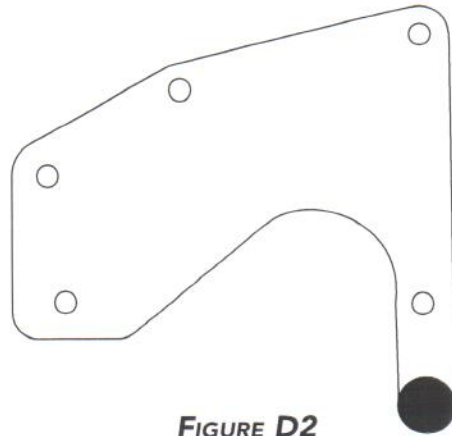
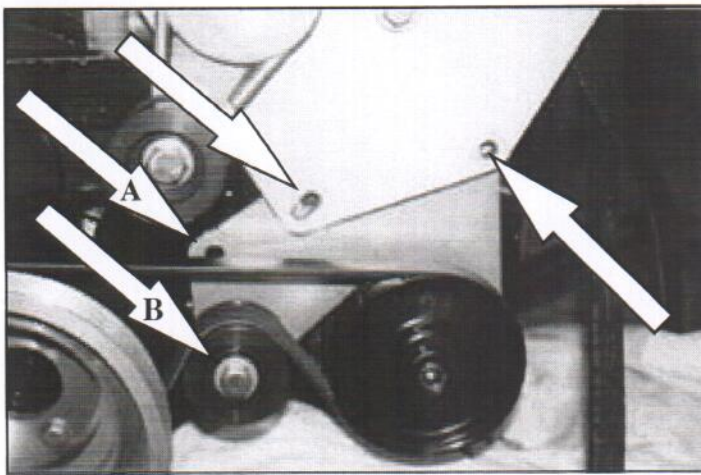
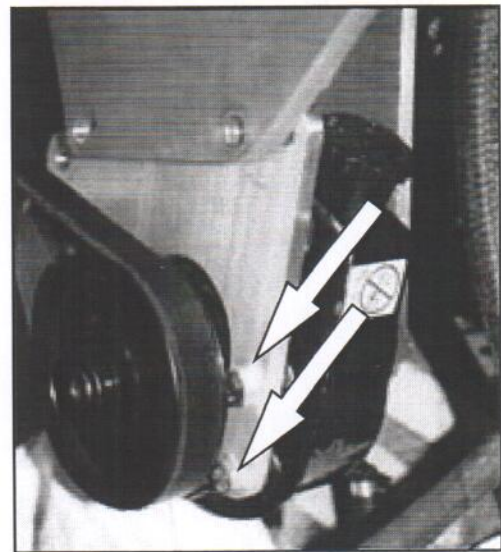

FIGURE D2
FIGURE D3
FIGURE D4
3. Using the two holes on the engine block just to the right of the harmonic balancer on the port side, bolt the front power steering bracket to the engine oriented as shown in figure D2. Hole A from Figure D3 uses a 3.35" spacer between the bracket and block with a 7/16" x 4 1/2" bolt going through. Hole B uses a 3.35" spacer between the bracket and block also, but on the front of the bracket place the fixed idler pulley with .73" idler bushing (1.6" O.A.L.), and run a 7/16 x 6" bolt through. Refer to figure D3. The two holes on the right side of the bracket line up with the two holes on the front outside of the power steering pump as in Figure D4. Bolt the pump to the bracket using 2 supplied 10 mm bolts.